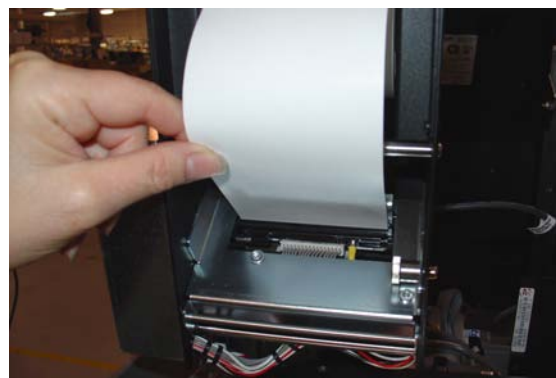

Figure 8. Insert paper into take-up slot.
4. Place the paper roll w/spool back on to the paper bracket ensuring that the paper feeds from the **TOP** of the roll. **Power up the ATM.** Insert the edge of the paper into the printer take-up slot as shown in Figure 8. **NOTE: Paper feeds OVER the bar.** The printer will automatically grip and pull the paper into the paper path.